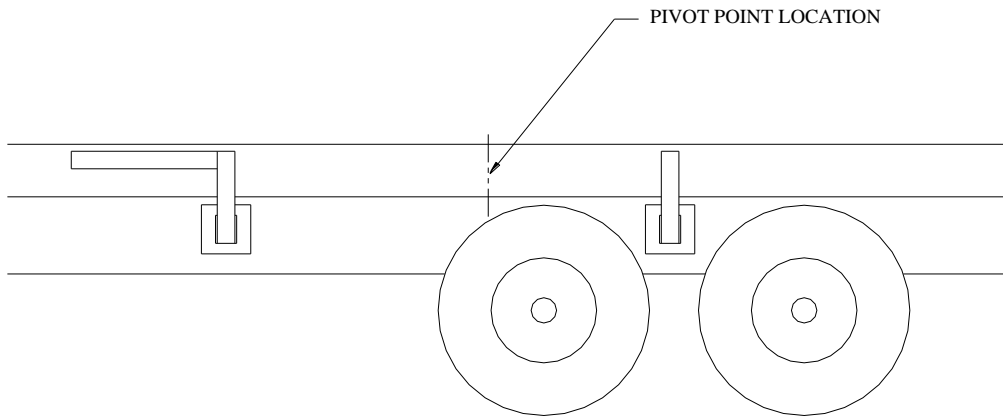

Figure 9
**Note:** There are (2) 21" pieces of 2-1/2 X 3-1/2 square tubing that can be cut and used as extensions included in this kit. An example of how the extension can be used is shown in figure 9 below.